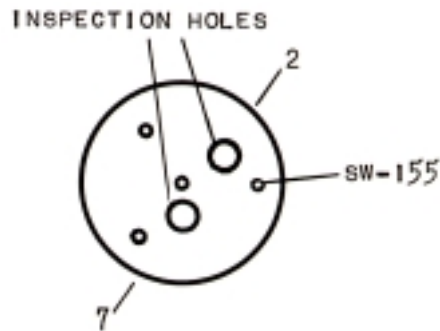

Figure 17 Inspection Holes
5. Place Movement back in Meter, securing it with three screws, SW-155, after it has been oriented so that the two inspection holes in the movement plate are in "the Two and Seven o'clock" positions, as shown below in Figure 17.